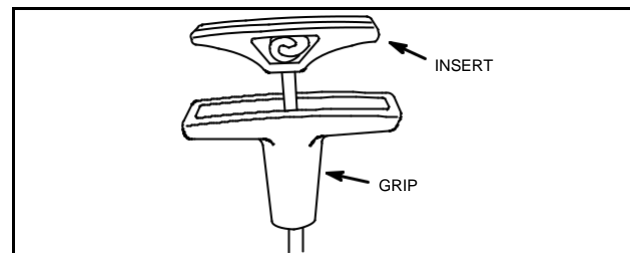

Fig. 631 – INSTALLING ROPE
8. Pull knot into insert pocket and snap insert into grip, Fig. 631.
18. After installing alternate style starter on engine, route rope up to equipment control handle and install handle and insert, Fig. 631.